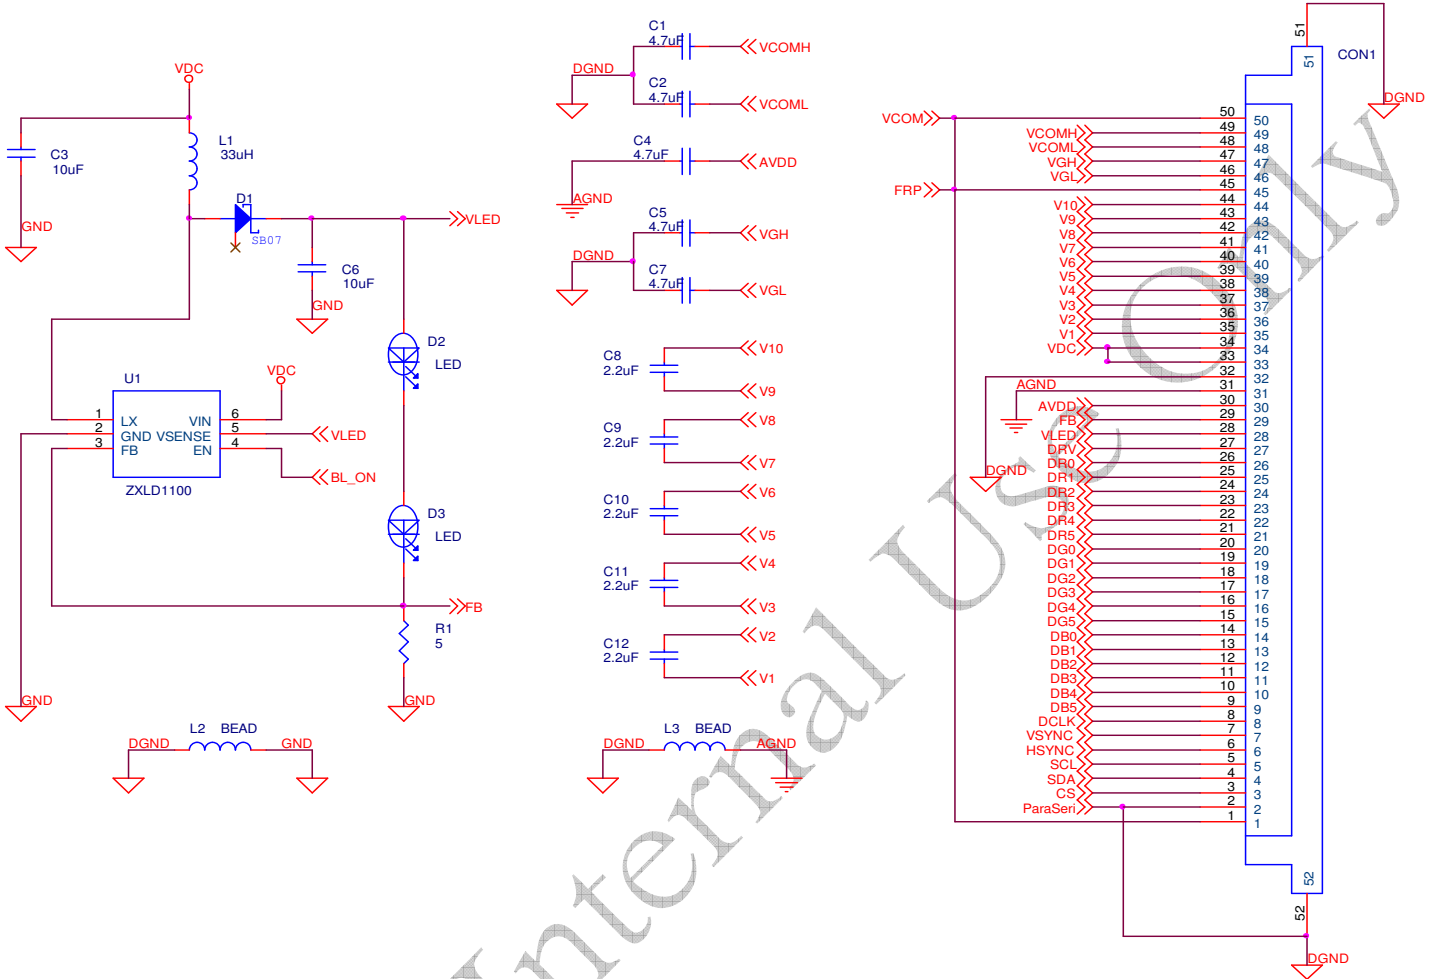

Fig. 7 External LED Driver Application Circuit
See Fig. 7 for the application circuit.
According to Fig. 7, the LED driver(ZXLD1100) and R1(5 ohm) with 0.1V feedback (FB) can provide a constant 20mA current for LED backlight unit. To control the back light on/off timing, user should create a control signal BL_ON (please refer to the ZXLD1100 date sheet). The LCD driver output DRV signal can also be used to drive BL_ON.